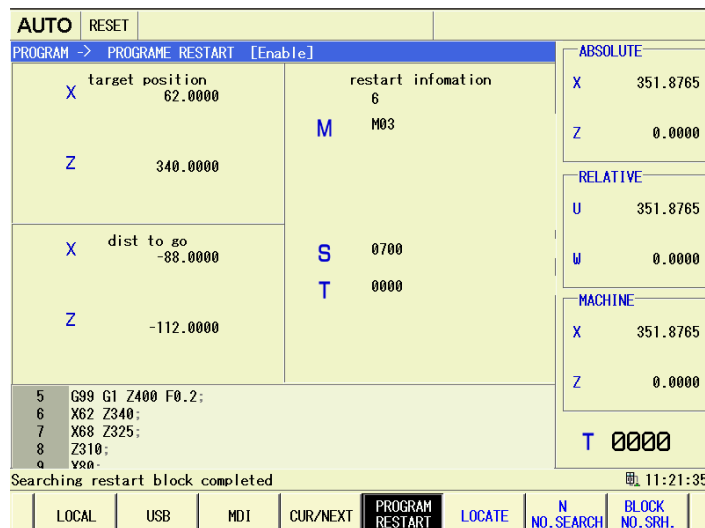

Fig.6-11
1. After indexing, the page becomes the program restart screen, refer to the Fig.6-11: